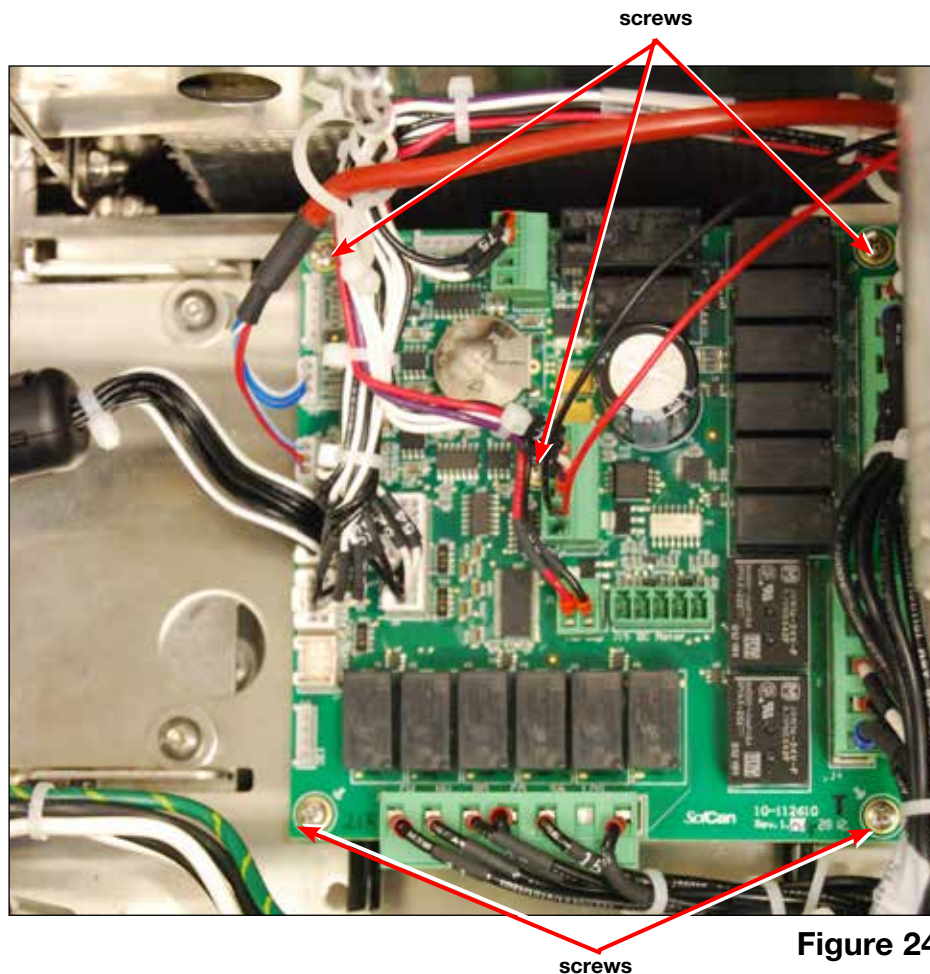

Figure 24
3. Reconnect all connectors. **NOTE:** all connectors have unique ports. See Figure 24 and the electrical schematic in Appendix A for reference.